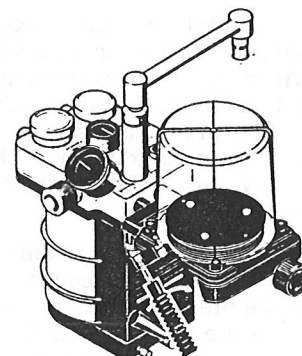

Figure 2-7
5. Connect the free end of the 17-mm corrugated tube to the absorber interface manifold's 17-mm, barbed connector. (See figure 2-7.)